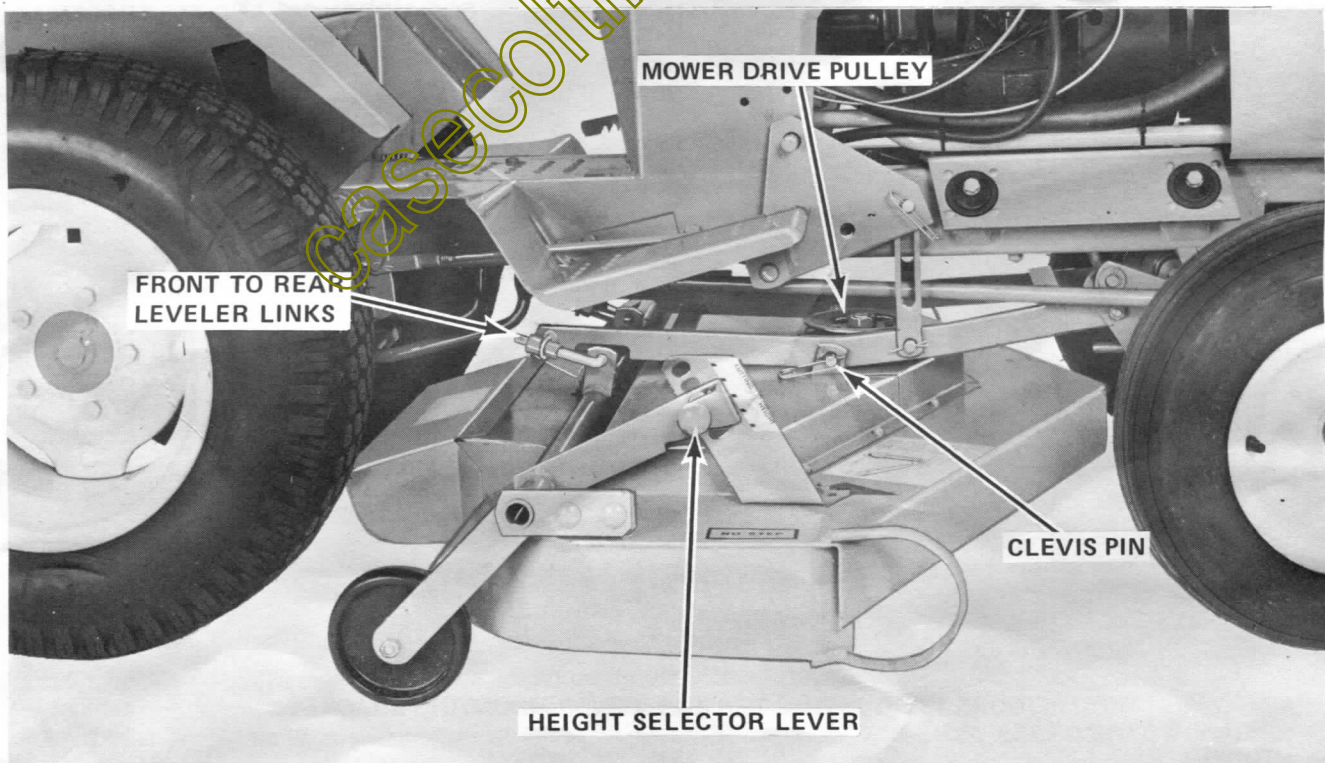

FIGURE 14
Raise the lawn mower to the "M" position. Lower the mounting bracket to the lawn mower chassis. See Figure 14.
7. Fasten the leveler links to the mounting bracket as shown in Figure 14.